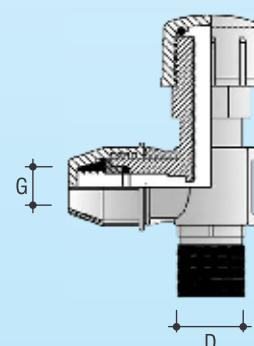

Fig.1
1. Fix the PP Tapping Ferrule onto the PP Clamp Saddle outlet by turning the PP Tapping Ferrule in clockwise direction. ( Figure 1 )
3. Clamp the PP Saddle onto the main pipe by fastening the bolts and nuts. ( Figure 1 )